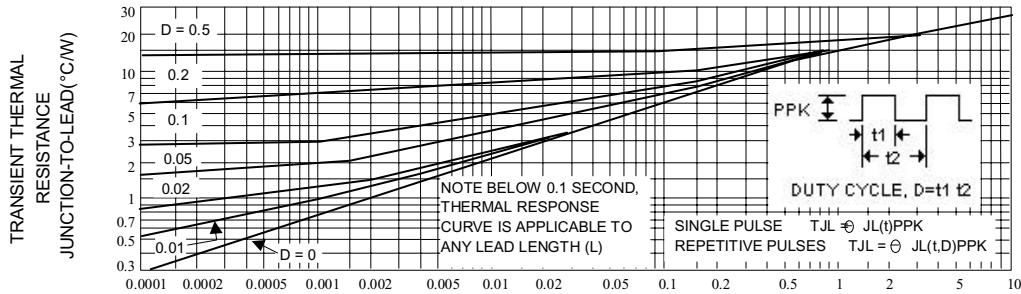
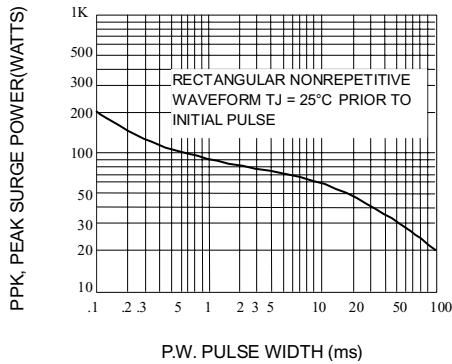

Fig. 2-TYPICAL THERMAL RESPONSE L,
Fig. 3-MAXIMUM SURGE POWER
4. SURGE CURRENT ( $I_r$ ) NON-REPETITIVE - The rating listed in the electrical characteristics table is maximum peak, non-repetitive, reverse surge current of 1/2 square wave or equivalent sine wave pulse of 1/120 second duration superimposed on the test current,  $I_{ZT}$ , per JEDEC standards, however, actual device capability is as described in Figure 3.
$\Delta T_{JL}$  is the increase in junction temperature above the lead temperature and may be found from Figure 2 for a train of power pulses or from Figure 10 for dc power.
Data of Figure 2 should not be used to compute surge capability. Surge limitations are given in Figure 3. They are lower than would be expected by considering only junction temperature, as current crowding effects cause temperatures to be extremely high in small spots resulting in device degradation should the limits of Figure 3 be exceeded.